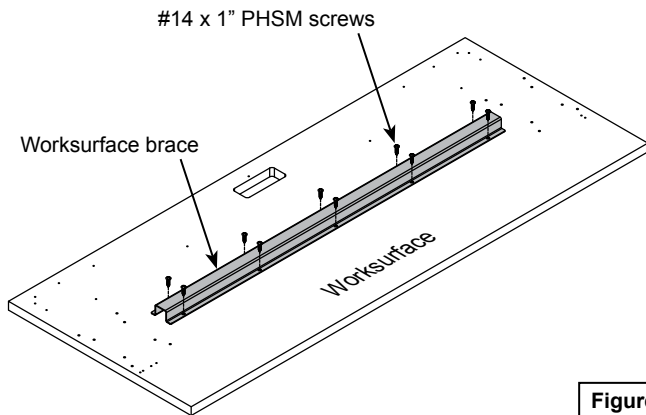

Figure 1
1. Place the worksurface face down (laminite side-down) onto a flat, non-abrasive surface like another table. **Figure 1.**